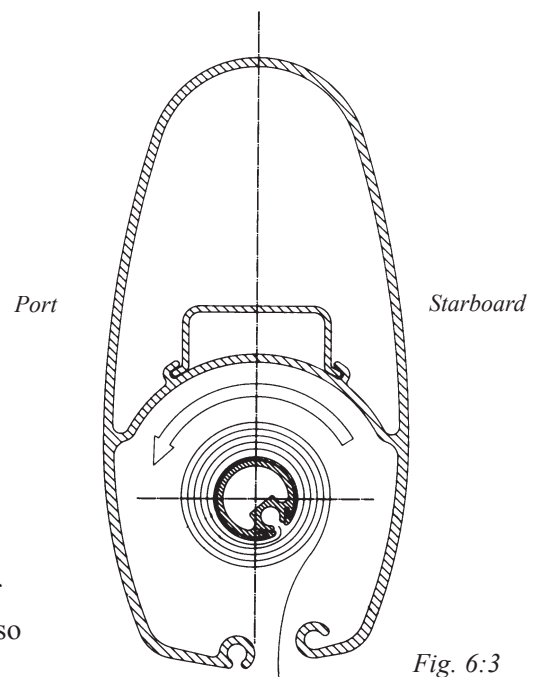

Fig. 6:3
- Check that the sail is correctly furled on the luff extrusion: i.e. to its starboard side. (see Fig. 6:3.)